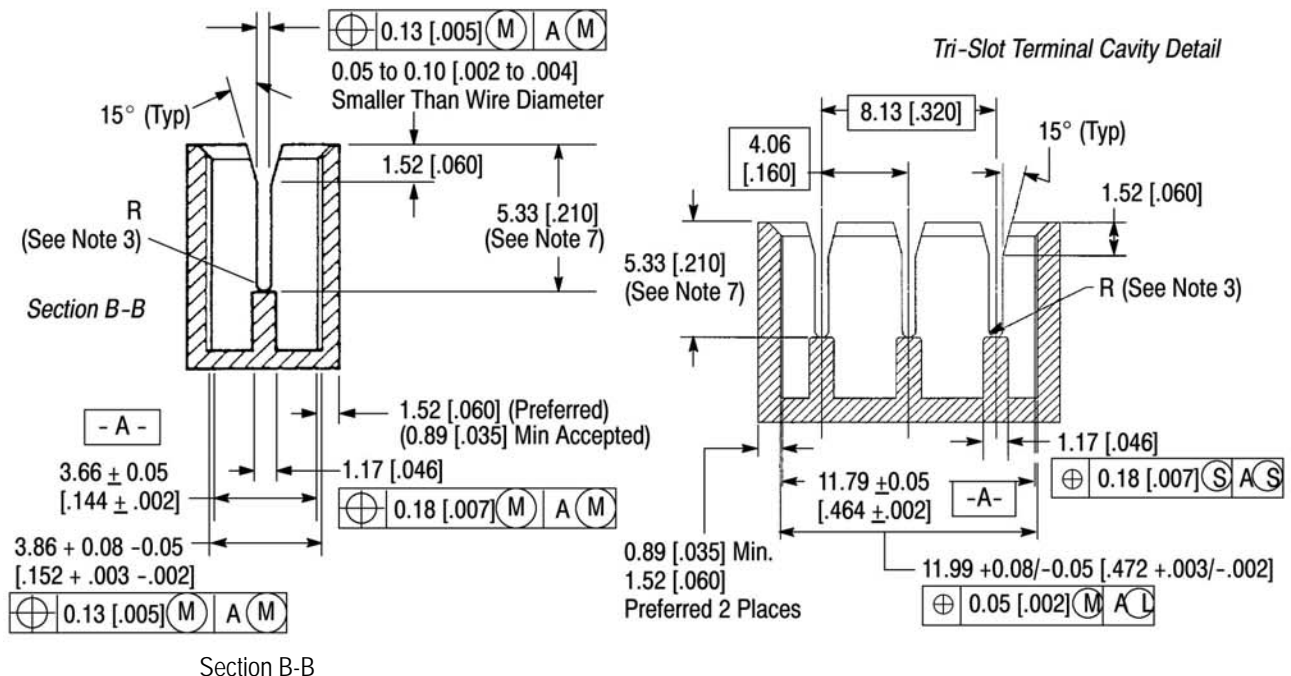
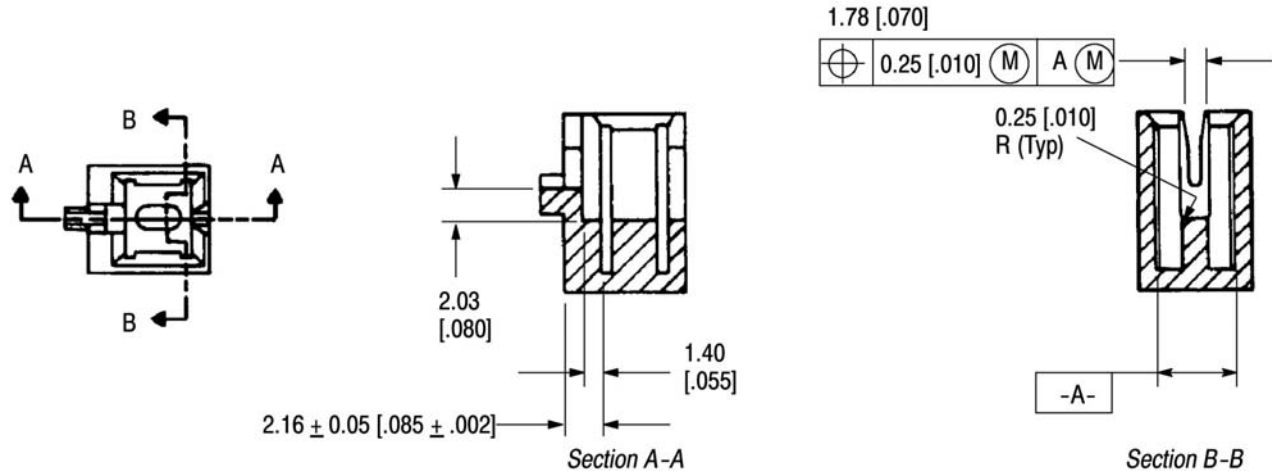
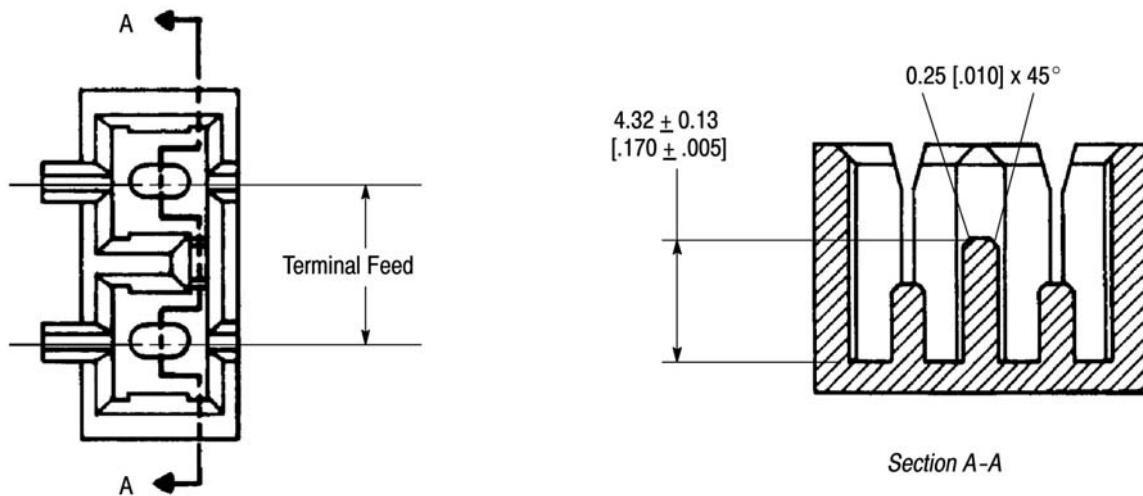
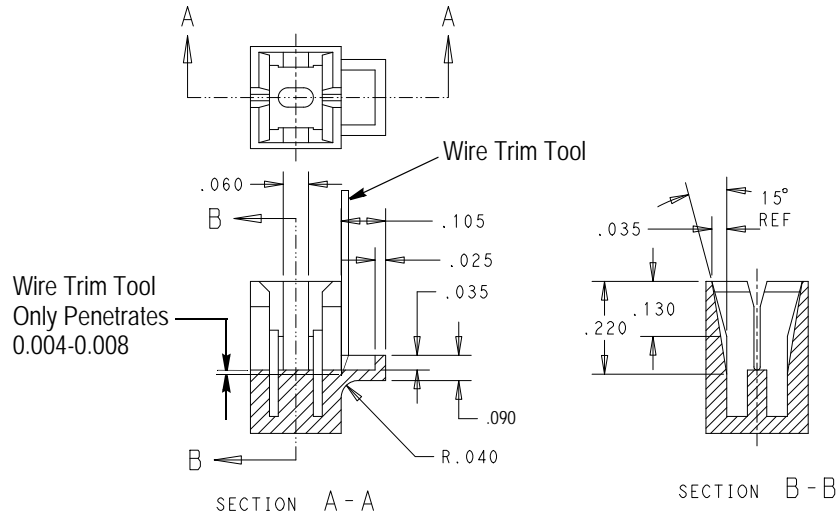

Figure 3
Figure 4
Figure 5
Figure 6
The external design of the housing will depend on your requirements. Internal cavity designs must conform to the dimensions provided in Figures 3, 4, or 5. Pre-design consultation with TE Engineering is necessary to be sure the cavity configuration will be functional and that it will be compatible with automatic insertion machines.
The following Notes apply to the housings shown in Figure 3:
- (1) Housings must be glass-filled polyester material or approved equivalent.
- (2) The wire trim side of the housing shall have an even thickness to prevent damage to the housing when trimming excess wire.
- (3) Coil windings and other components must not extend above the wire slot or otherwise obstruct seating of the terminal or wire.
- (4) The housing must have a wire trim support if automatic machine insertion is used. It is not necessary for the housing to have a wire trim support if inserting the wire with a hand insertion tool.
- (5) The wire slot may have a controlled flash to provide retention and stability for a broad range of wire sizes.
- (6) For poke-in wire applications: depth of beam slots may be increased to conform with electrical spacing requirements, and strain relief for wire is recommended.
- (7) The given dimension is for a single wire application. The dimension may change for double wire application, in which case, see Customer Drawing of terminal.
- (8) Controlled flash may be used at wire end. See CONTROLLED FLASH detail, Figure 3.
- (9) Features that include draft must maintain the dimension and tolerance over the entire length of that feature.
This housing design has a wire support above the anvil that allows the wire to be cut before the terminal is fully seated. As the terminal is seated, it pulls the wire end down and conceals it in the pocket behind the wire support. All the dimensions given for the exposed wire end cavity in Figure 3 apply, except for those that appear in Figure 4.
Multiple cavity housings can be made with exposed or concealed wire ends and wire slots with or without controlled flash as defined by the dimensions in Figures 3 and 4. They can also be made to accommodate commoned terminals by using a shorter wall between cavities. See Figure 5.
For applications involving termination of aluminum magnet wire, it is often necessary to apply a protective gel to exposed bare wire at the IDC interface and wire trim areas. The housing option shown in Figure 6 includes enhanced lead-in to facilitate injection of gel down inside the terminal to coat the IDC interface areas. Also shown is a special wire trim tray option where the excess magnet wire can be trimmed off and still leave a tray for application and retention of gel at the exposed wire end. If there is no room for a wire trim tray, the concealed wire end option as shown in Figure 4 also provides a good solution. All the dimensions in Figure 3, Section A-A and B-B apply except for those that appear in Figure 6.